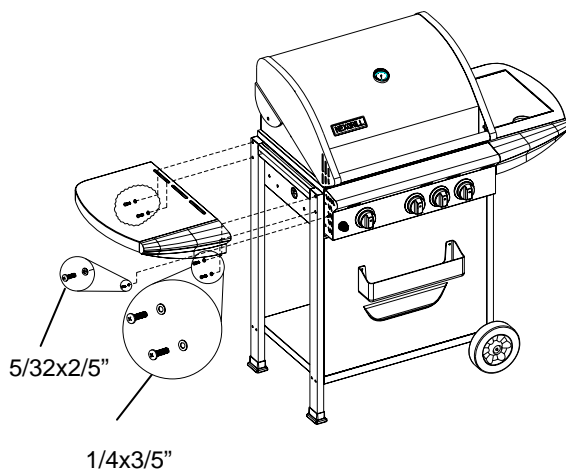

Figure 11
1. Attach side shelf by using (4) 1/4x3/5" Phillips head screw with (4) 1/4" lock washers. Then use (1) 5/32" Phillips head screw and (1) 5/32" lock washer to attach the side shelf control panel to main control panel. (Fig 11).